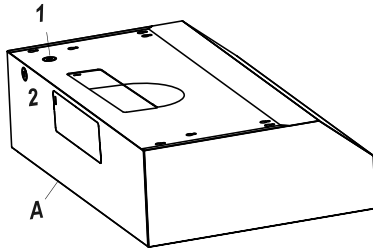

Fig. 9
- Calculate the total effective length of the duct work by adding the equivalent lengths in the table shown (Fig. 9). For each fitting used add the length of the equivalent straight duct used in the system.
- Cap the exterior of the duct with a wall cap (15) or roof cap (16). Never use 4 in (102 mm) laundry-type wall caps. Use caulking to seal exterior wall or roof opening around the cap.
- Choose the appropriate electrical knock-out hole to remove for your installation type. Use the top hole (1) if your electrical supply is in the cabinet and the back hole (2) if your electrical supply is on the wall below the cabinet (refer to Fig. 9).